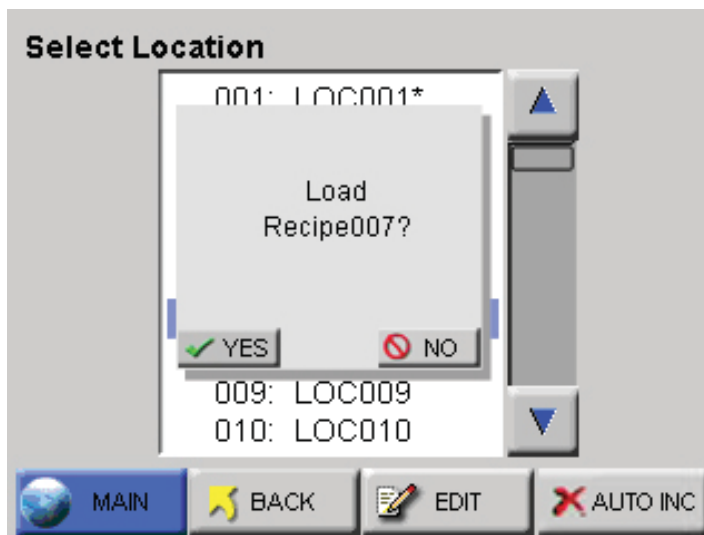

Figure 6-71 Location - Load Recipe
- When selecting a location with a recipe, the user is provided with the option of loading the recipe as shown in Figure 6-71. If the user chooses not to load the recipe, the location can still be used with the current settings.